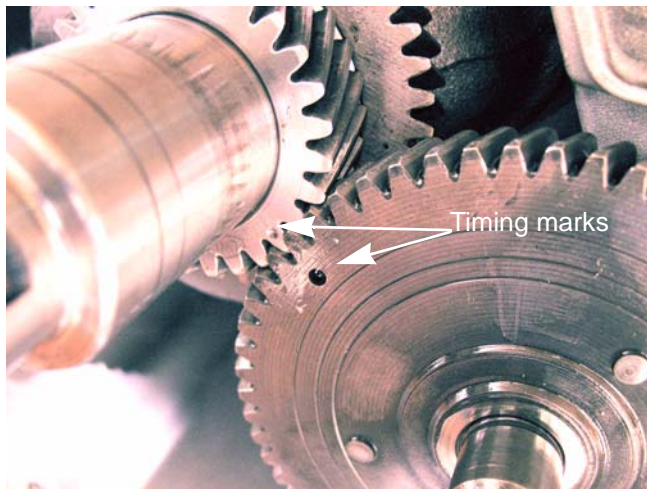

Figure 10.23
- 8c. Insert the cam shaft while aligning the timing marks. See Figure 10.23.